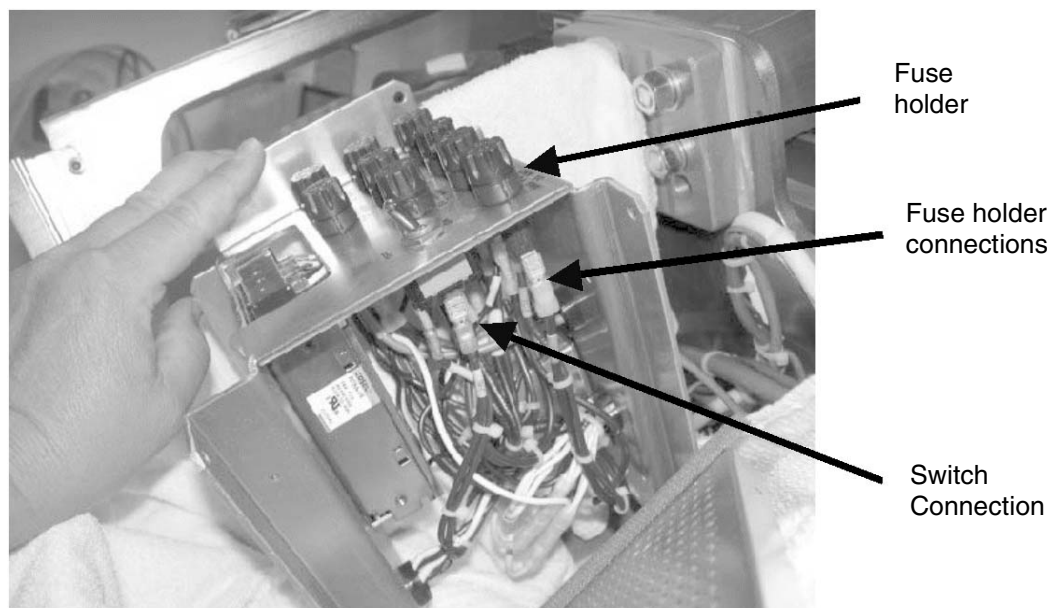

Figure 3 - Fuse Box with screen cover removed
- 15.) Perforated panel can now be removed, be careful of grid/filter tape or Ty-Raps that may be holding wires to perforated panel. Cut Ty-Raps if present. The **DAS** power fuse and switch are now accessible as shown in Figure 3 below.